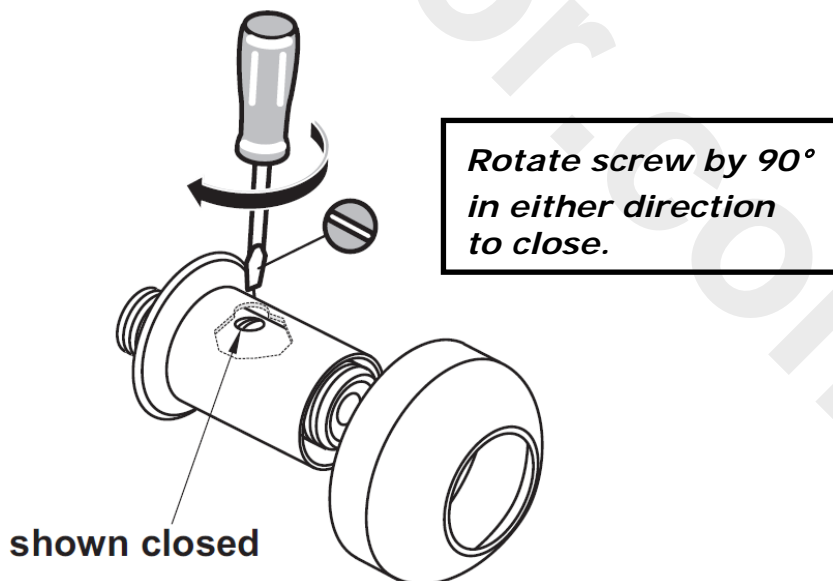

Figure. 12 Operation of isolating valves shown closed
Note: To gain access to the cold water isolating valve, unscrew the right hand shroud (13) & slide forward to expose the isolating screw on top of the cold inlet leg (see fig.12, section 10).